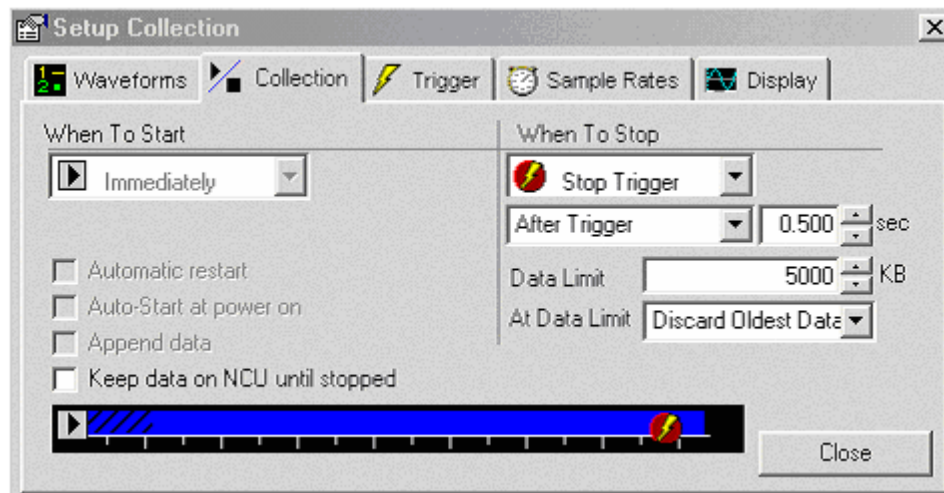

Figure 4-5 Dialog: Setup Collection
### "When to Start" Collection (left side of screen, Figure 4-5)
**"When to Stop" Collection (right side of screen, Figure 4-5)**